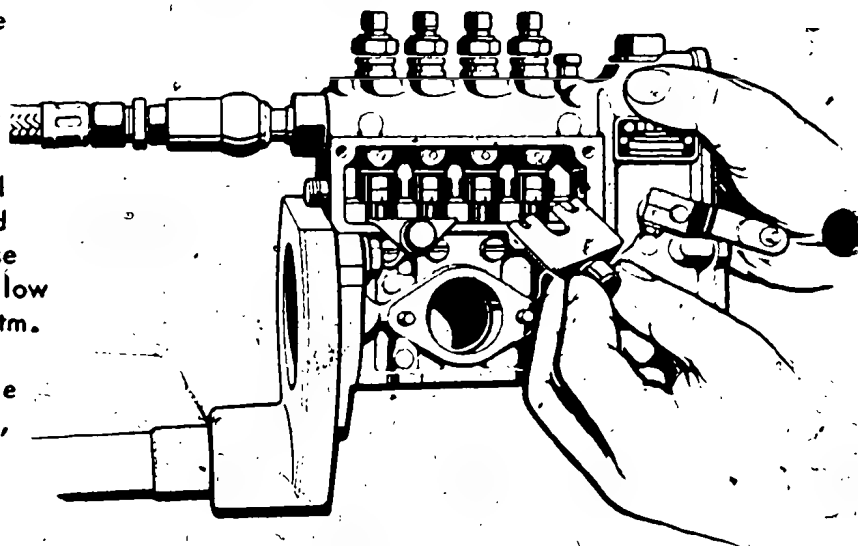

Fig. 6: The holding plates EFEP 309 are used for the tightness test
1. Fix pump housing on clamping support in vertical position. Take pump barrel (14) from depositing tray, clean the sealing face and introduce barrel into the housing in such a way that the vertical groove for the locating pin is in the proper position. Pump barrel must not jam in pump housing and must not be pressed by locating pin. To check, slightly lift from below with a finger and allow to drop freely onto its seating.
2. Check gasket (18) on delivery valve holder (19) to see whether it is satisfactory. Place valve spring (16) in valve holder and install delivery valve (15) with gasket (17). The sealing face of the valve must also be absolutely clean. Then screw the whole unit into the pump housing. The delivery valve holder should be tightened twice at a torque of 5 kpm (36 ft lb) each time and slackened again after each tightening; finally tighten same with a torque of 4 kpm (29 ft lb).
3. Place pump plunger (14) on plunger pliers EFEP 76. Immerse plunger in test oil and check whether it slides easily in the barrels. Leave plunger in barrel and insert holding plate EFEP 309 so that plunger cannot drop out (Fig. 6). Close bore for overflow valve with dummy plug. Remove pump housing from clamping support. Connect air hose to fuel inlet connection (thread M 14 x 1.5) and immerse the pump in test oil. Allow compressed air at 0.5 atm. (7 psi gauge) pressure to flow-in. If an air bubble rises only now and then, the pump is considered tight.